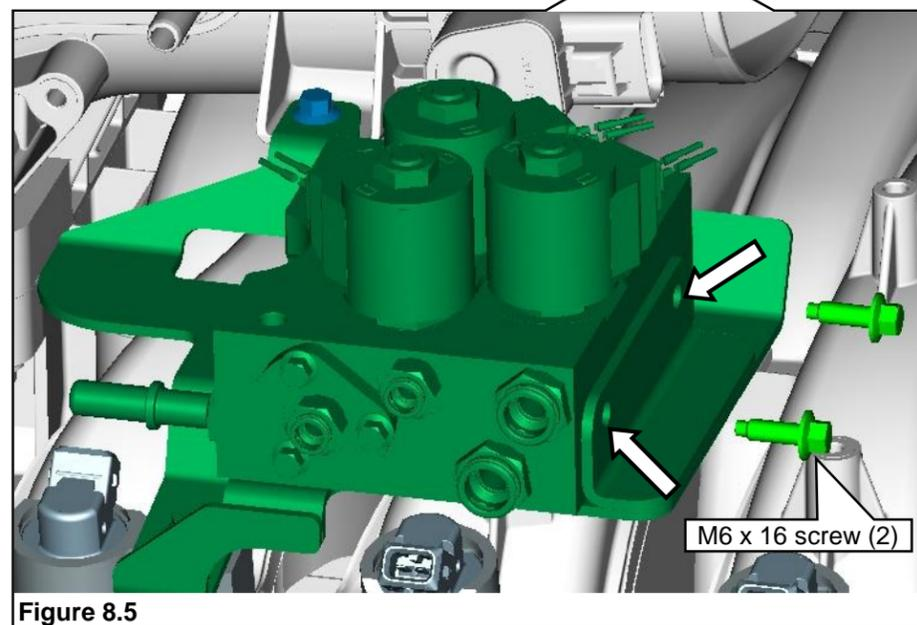

Figure 8.5
4. Loosely install two M6 x 16 bolts into the front bracket of the FRPCM. **Figure 8.5.**